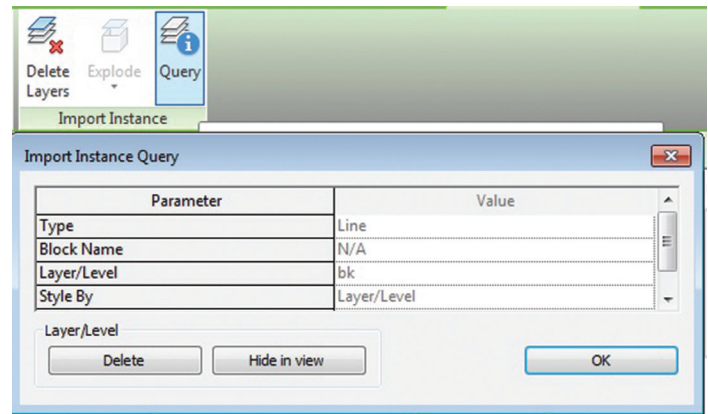

Figure 2
11. Inside the floor plan select the linked file; on the ribbon, click Query (see Figure 2).